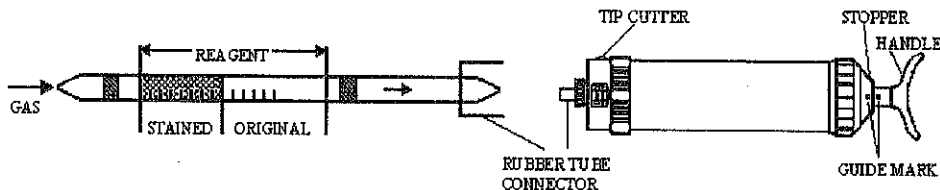

Fig.1
- ② Insert the detector tube into aspirating pump securely as shown in Fig.1. (Arrow mark shall point to the pump.)
- ③ Align the guide marks on the shaft and stopper of the aspirating pump.
- ④ Pull the pump handle at full stroke until it locks and wait for 2 minutes or until the completion of sampling is confirmed with the flow indicator of the pump (See descriptions about the flow indicator in the instructions of the pump).